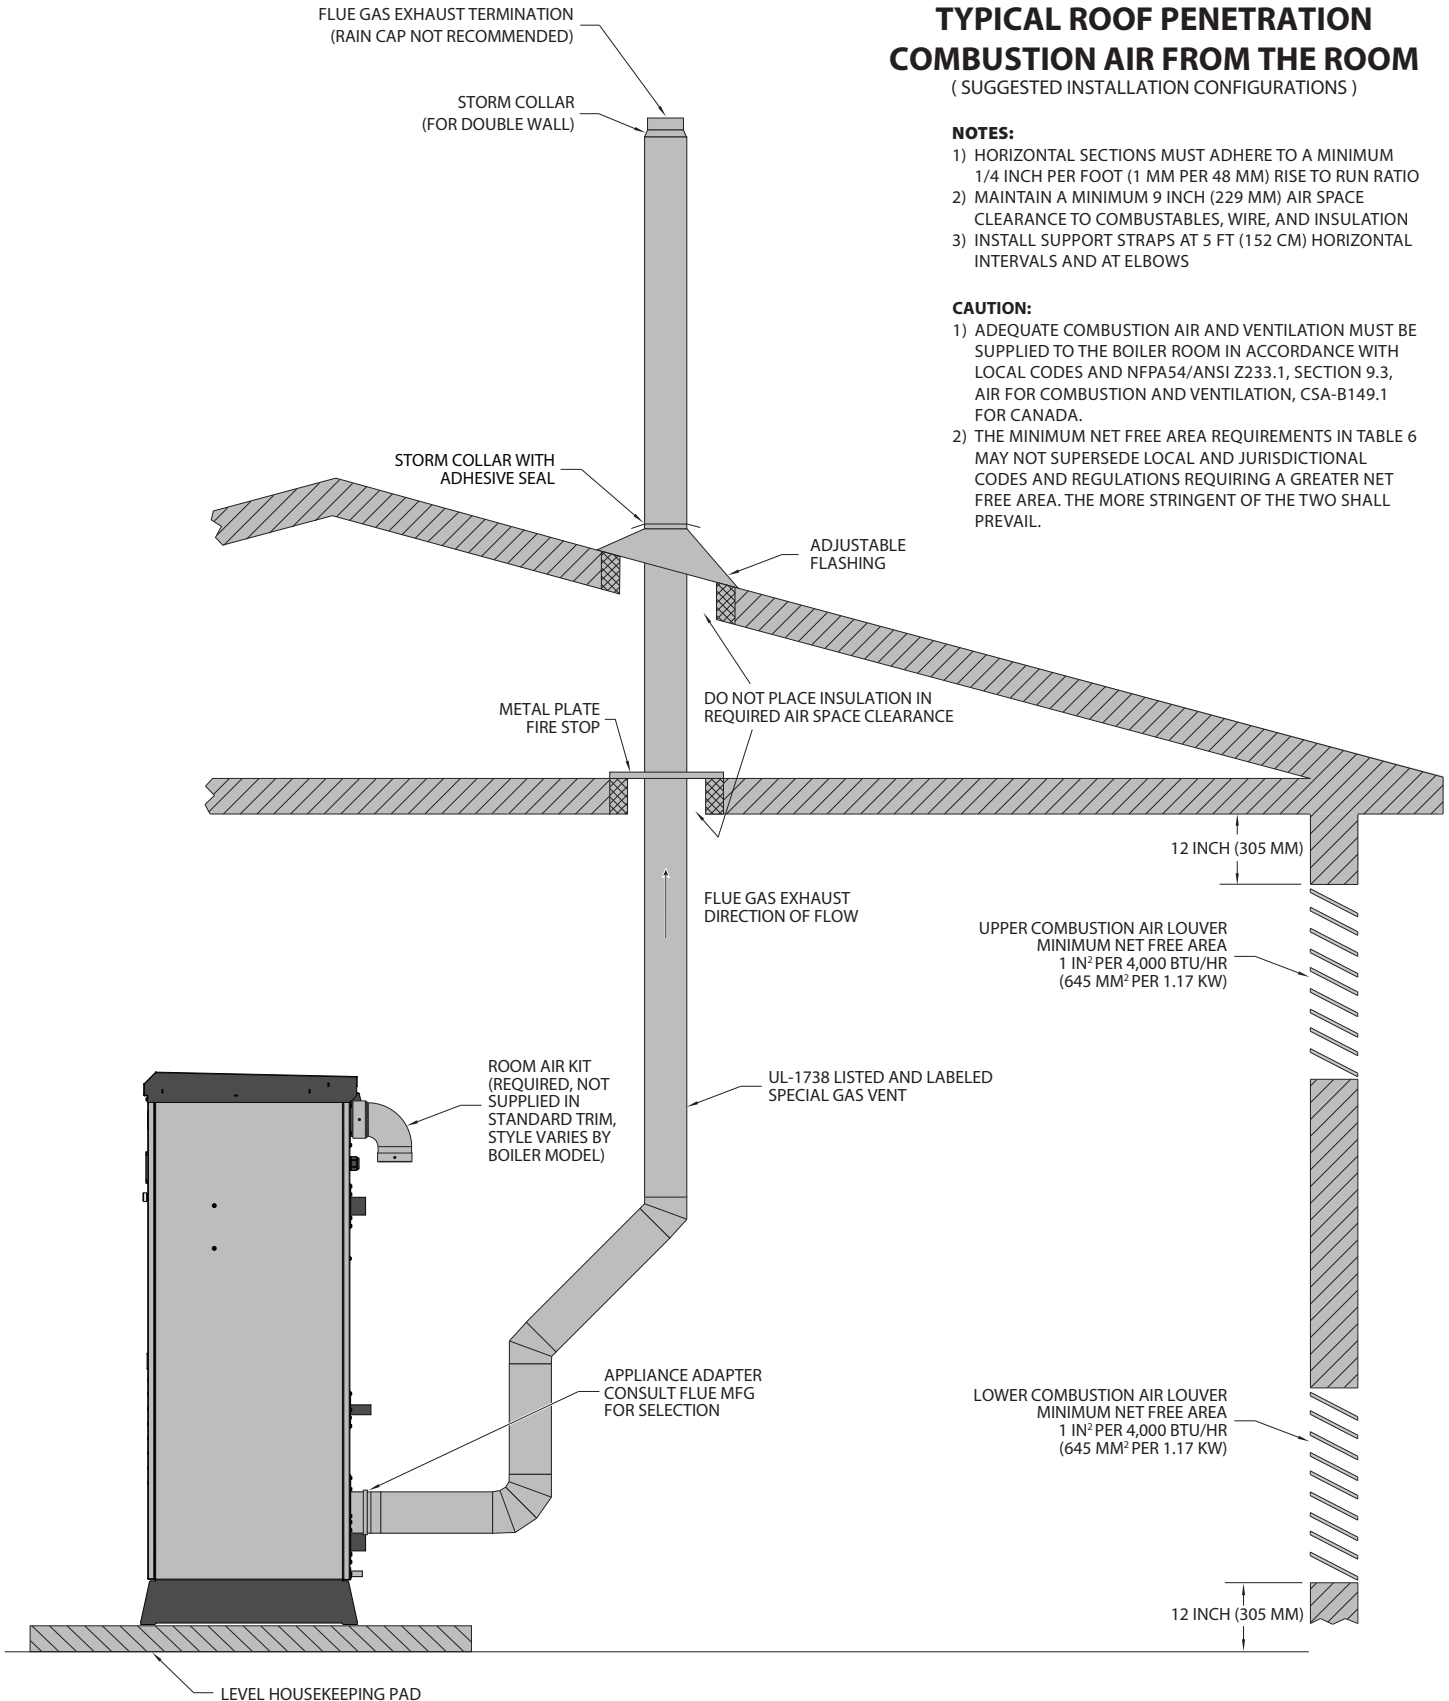

FIGURE 16 - ROOF PENETRATION WITH COMBUSTION AIR LOUVERS DETAILS
3. The use of rain caps on the flue gas exhaust termination is not recommended. Rain caps contribute to ice buildup, stagnant vapor plumes, flue gas recirculation (FGR) and excess vent restriction. See **Figure 16** and **17**.